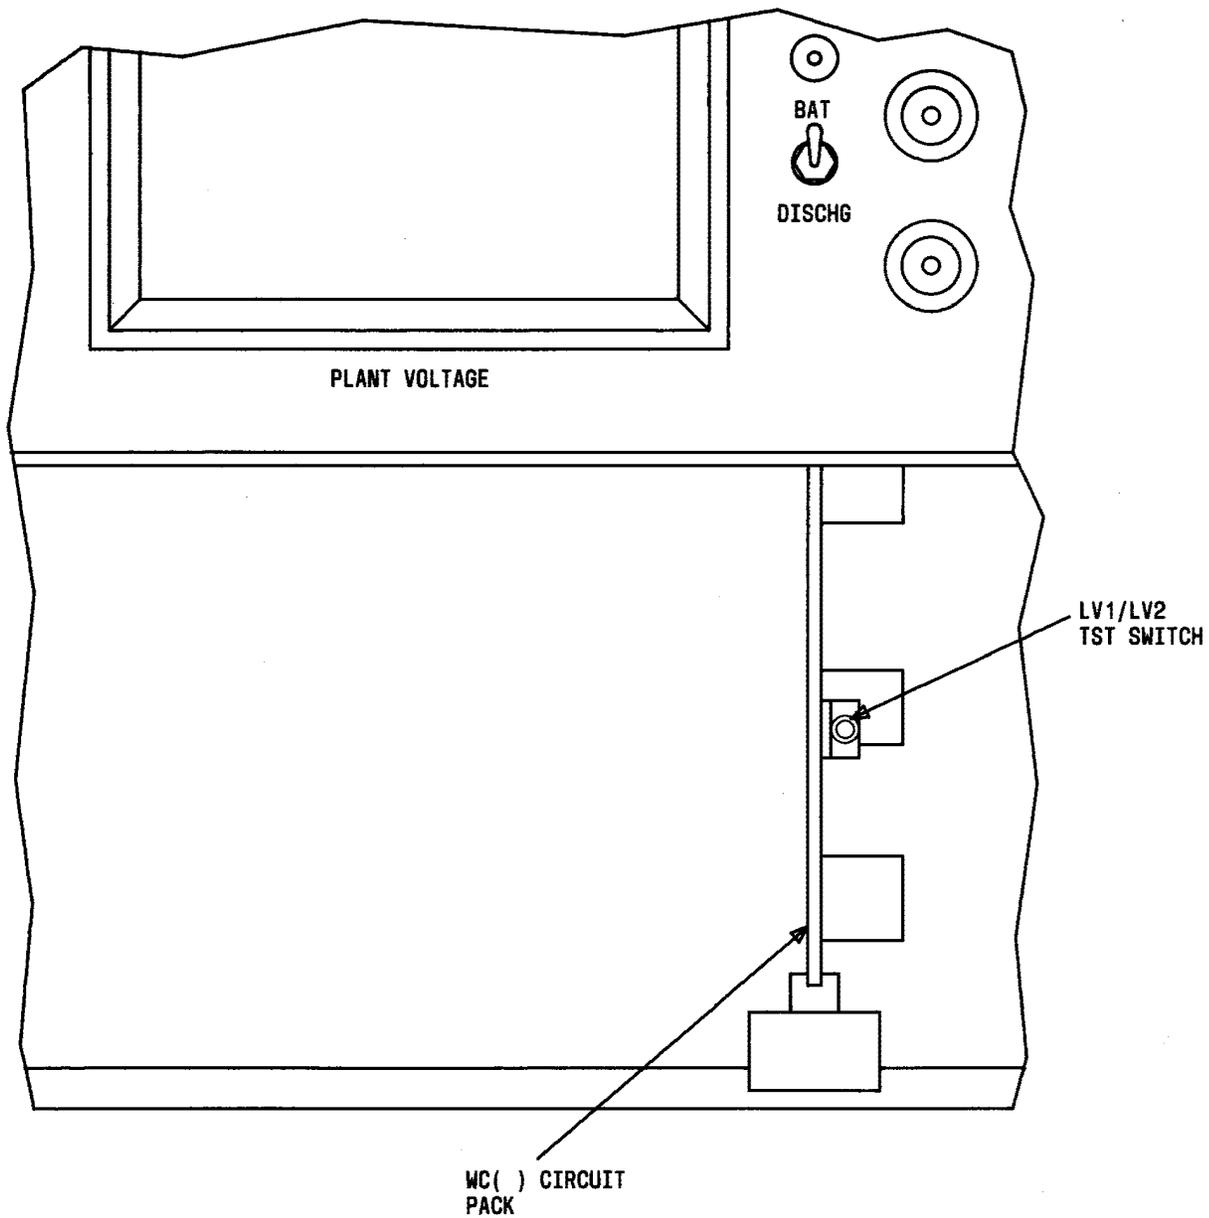

Fig. 15—J85516B Plant Control Unit (Partial View—Lower Front Panel Removed)
- (2) On the WC1 or WC2 circuit pack (Fig. 15 or 16), operate the TST or LV2 TST switch to the test position.
- (3) Release the test switch.